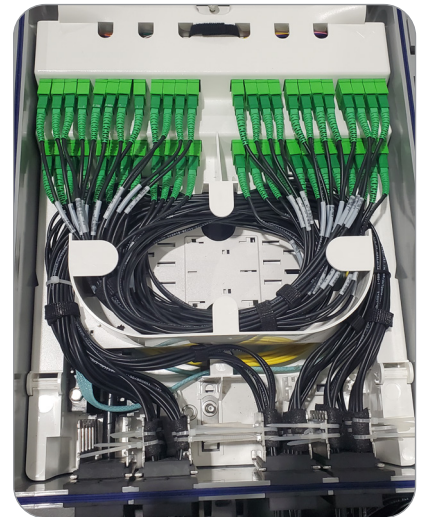

Figure 108
7. Re-install the rubber seal around the edge of the box (**Figure 108**).